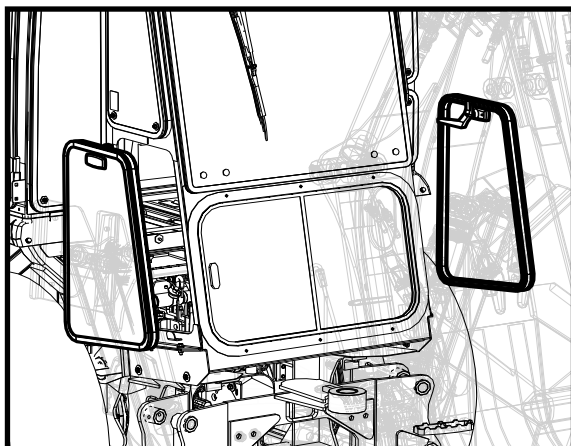

Figure 18.9: Backhoe Cab Side Windows
- 18.9 Install backhoe cab side windows (see Figure 18.9).